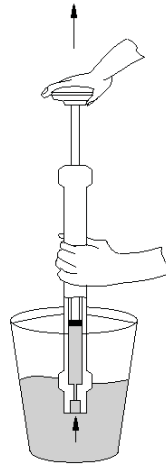

Figure 4-2 Filling the plunger
1. The pressurizing plunger is similar to a syringe. Fill the plunger by submerging the nose of the plunger into the fluid (Figure 4-2). Then, pull the piston rod upward to fill the plunger.